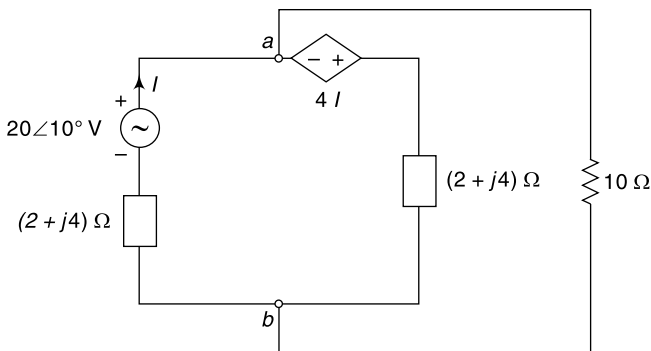

Fig. 6.35 Circuit of Ex. 6.34
6.34 Find Norton's equivalent circuit across terminals ab and find current through 10Ω resistor in Fig. 6.35.